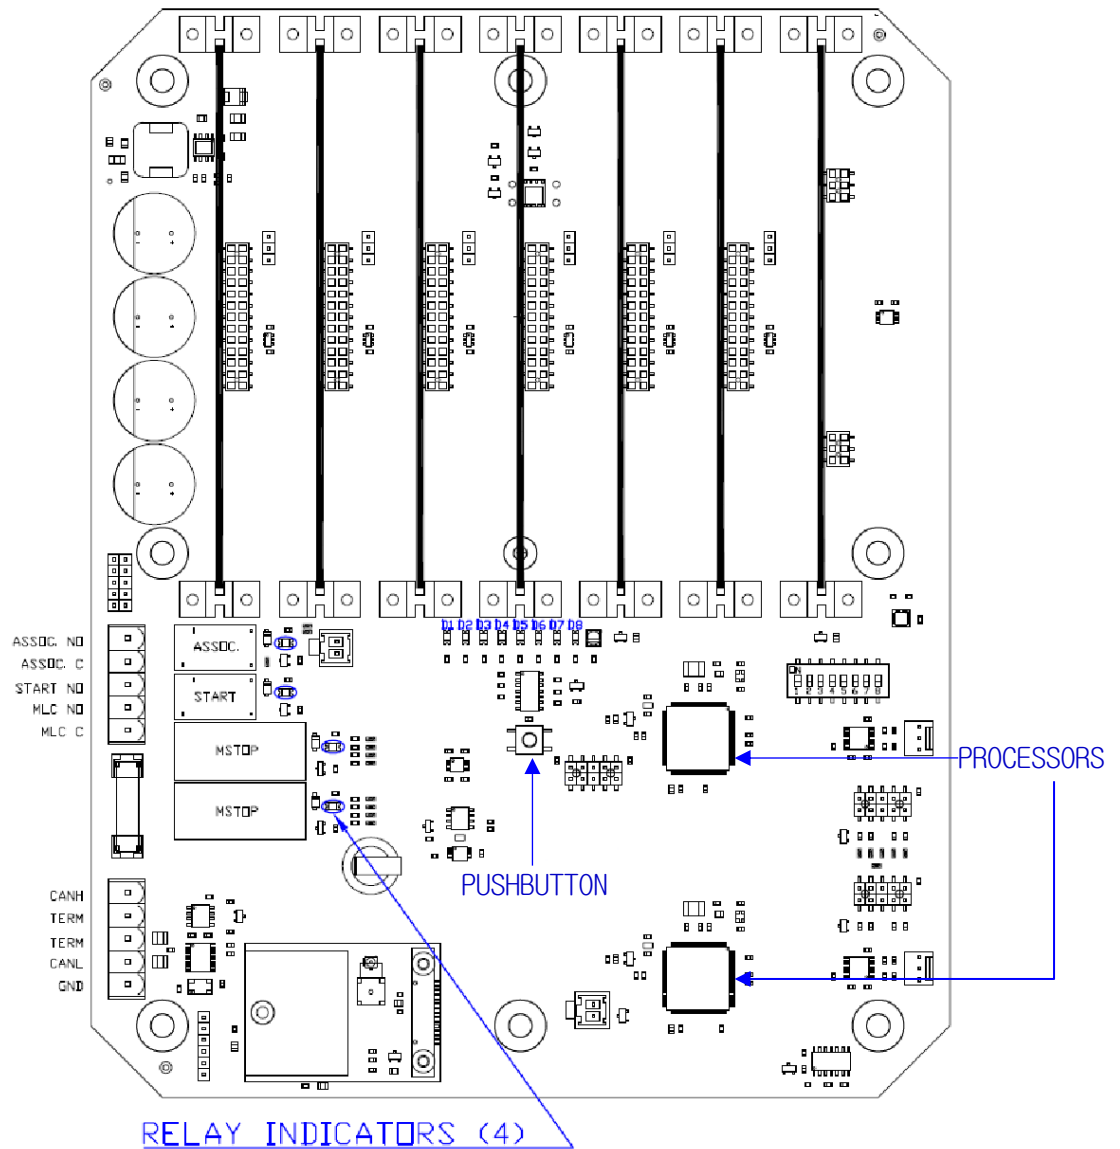

Figure 2. MU6E Main PCB
The MU6E receiver features a main printed circuit board (PCB) and seven available card slots. The card slot on the far right—depicted in Figure 2—only accepts power cards. The remaining six card slots can be populated with relay and/or analog I/O cards. There are also eight diagnostic LEDs and other features described in the following sections.
Each relay card consists of eight Form A relays capable of conducting 8A max @ 250VAC; each bank of relays is fused at 5A. Each relay is commanded by a *slave processor* that resides on the relay card. The slave processor is under the control of the *master processor* that resides on the main PCB (Figure 2). Each relay has an LED indicator that illuminates when the relay is commanded ON. This card has two diagnostic LEDs; Table 2 describes the functions.
1. Pressing the pushbutton (see Figure 2) unlocks association for five minutes. (Cervis, Inc. recommends this method because the receiver automatically returns to the locked state.)